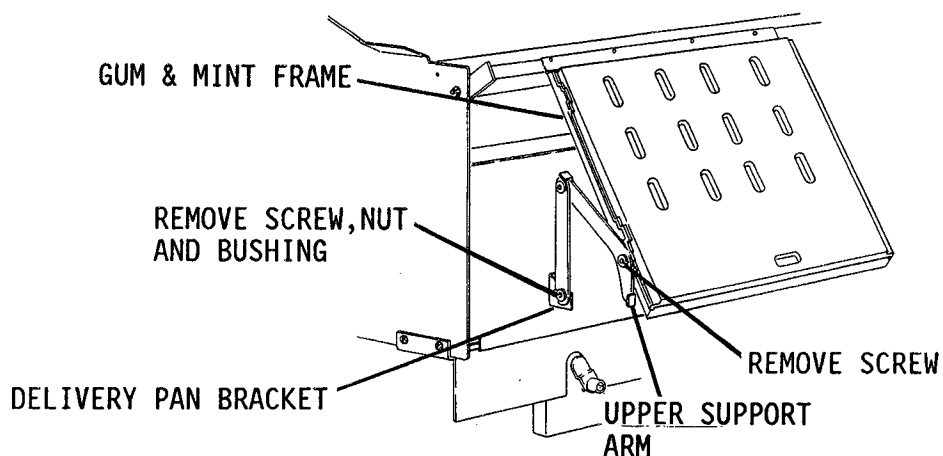

FIGURE 1. Removal of the Upper Support Arms
1. Disconnect the left side Upper Support Arm from the Gum and Mint Frame Assembly as shown in Figure 1. Remove the screw securing the Upper Support Arm to the frame. Repeat for the right side.
2. With the Gum and Mint Magazine held in the loading position by the Support Rod, disconnect the lower arm of the left side Support Arm Assembly from the delivery pan assembly as shown in Figure 1. Remove the screw and nut securing the lower arm and the bushing to the delivery pan bracket on the left side. Repeat for the right side.